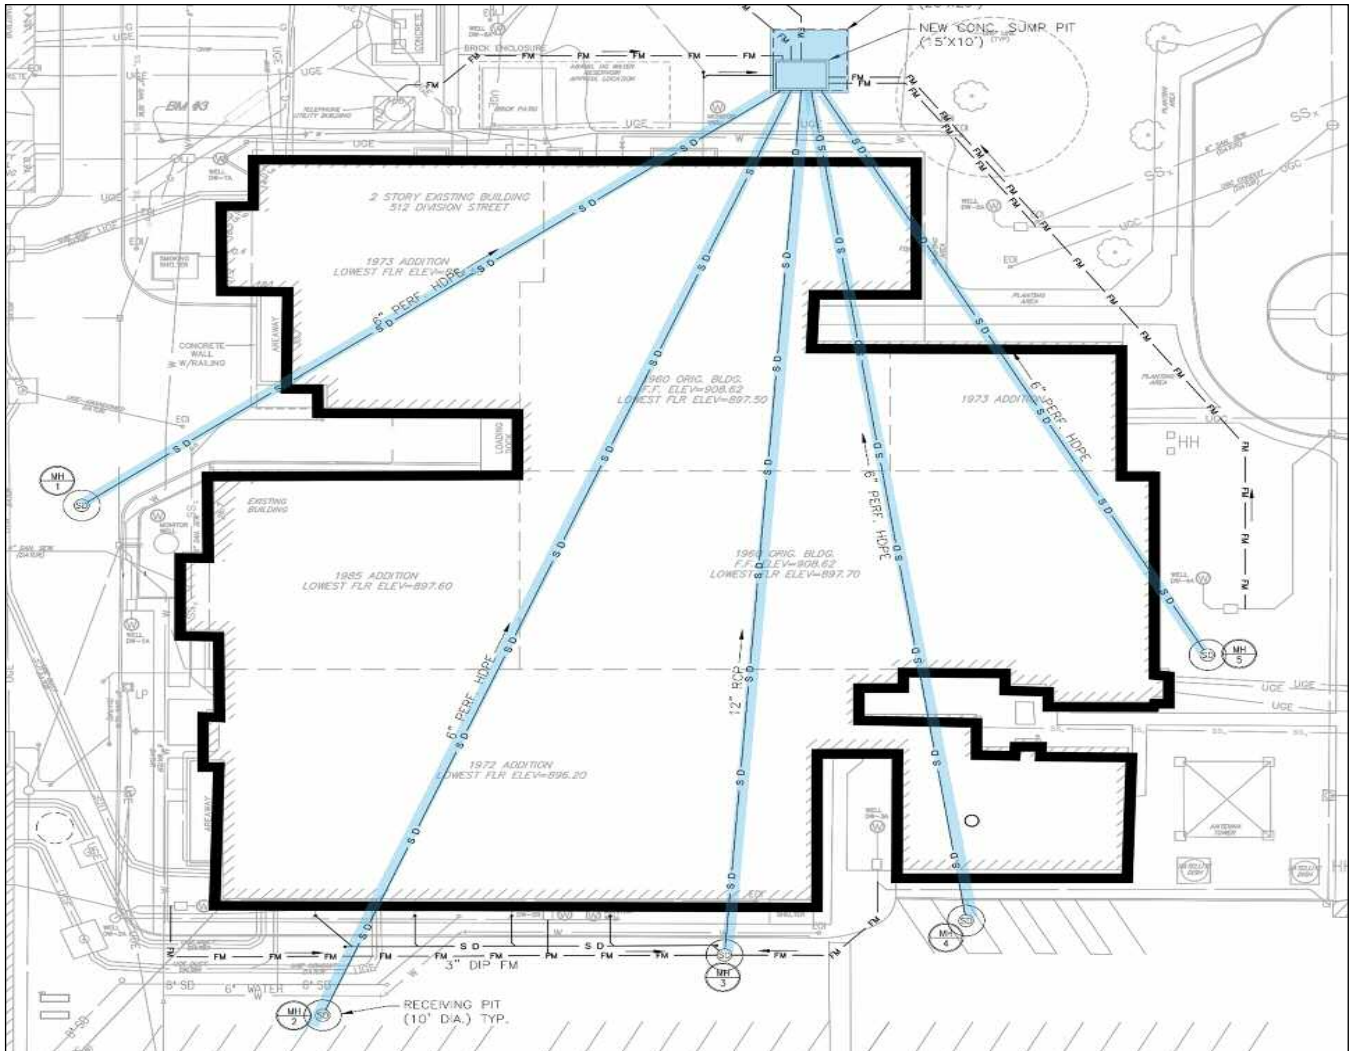

Figure 2. Pump Station
- The over-cut is much smaller than HDD. PTGAB was selected as the preferred trenchless option. The optimal well layout and orientation was a splayed array of four drains that extended under the building and drained back to a central pump station. A separate 10-inch drain line under the building would tie-in the existing vertical well system to the pump station. Figure 2 shows the orientation of the array and the pump station.